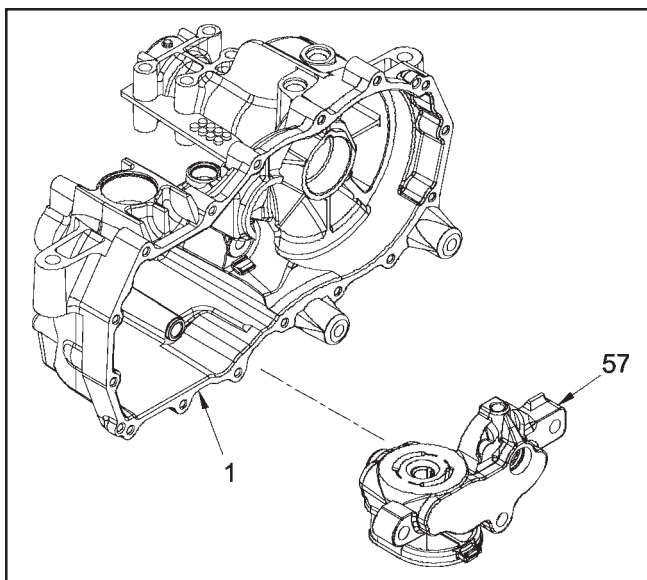
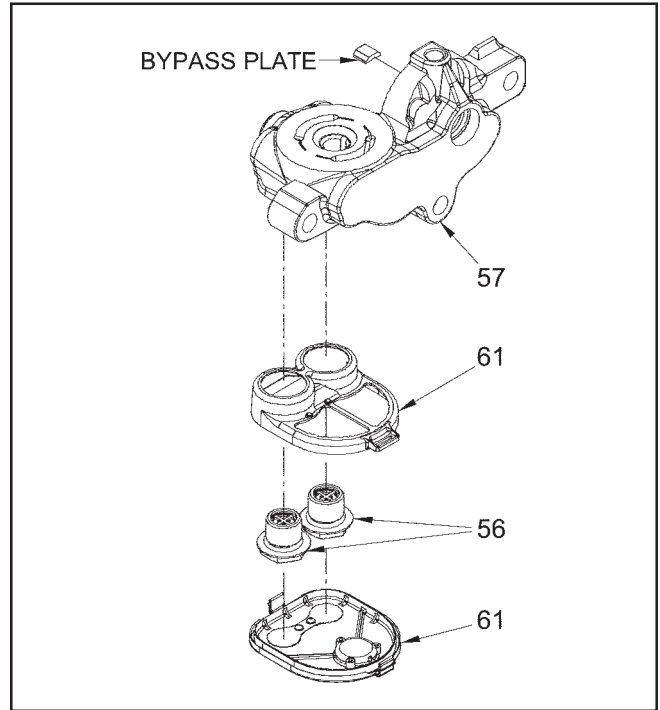
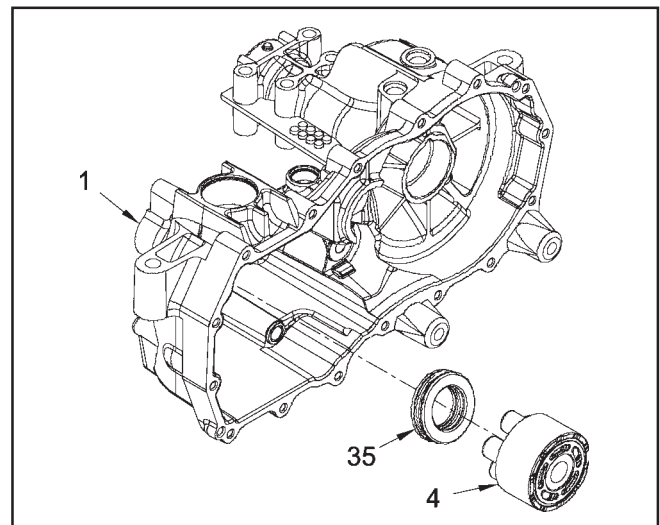

Figure 16
Figure 17
Figure 18
13. Remove the center section and filter assembly (57, Figure 16). NOTE: Bypass plate (Figure 17) may slide out of the center section.
15. Note the location of both check plugs (56) before removal for correct replacement during reassembly. Remove and inspect the check plug assemblies (56) for debris or damage.
16. Remove the filter base (61) and discard it. NOTE: The filter base is included in the filter kit to be installed during reassembly of the unit.
17. **(See Figure 18)** Remove the motor cylinder block assembly (4) from the housing (1).
18. Disassemble the motor cylinder block assembly (4). Check each piston for proper operation by pressing the pistons in and releasing them in the block bore. Disassemble the motor cylinder block. Check for piston/block wear in the cylinder bore. Inspect the pistons, piston springs and thrust washers for excessive wear or damage. NOTE: Thrust washers may be held in place in the piston by residual oil.
20. Remove the thrust bearing assembly (35) from the housing (1). Inspect the thrust bearing and thrust bearing cavity in the housing.
1. (See Figure 18) Turn the housing (1) so the motor thrust bearing cavity is facing up. This will assist in the installation of the motor thrust bearing assembly (35) keeping it in the bearing cavity during installation of the center section assembly (57, Figure 16).
2. Insert the thrust bearing (35) in the housing (1). NOTE: Place the thin race of the bearing towards the housing bearing cavity. The thick race must face the pistons.
3. (See Figure 17) Install the new filter base (61) onto the center section (57).
4. It will be necessary to clean the check plugs prior to re-assembly. Install the check plugs (56), in their correct location, into the center section (57). Tighten the check plugs according to Table 6.
5. Align the tabs on the filter cover with the slots in the filter base and carefully press the cover onto the base until the tabs snap into place. Insure the bypass plate (Figure 17) is located properly in the center section.